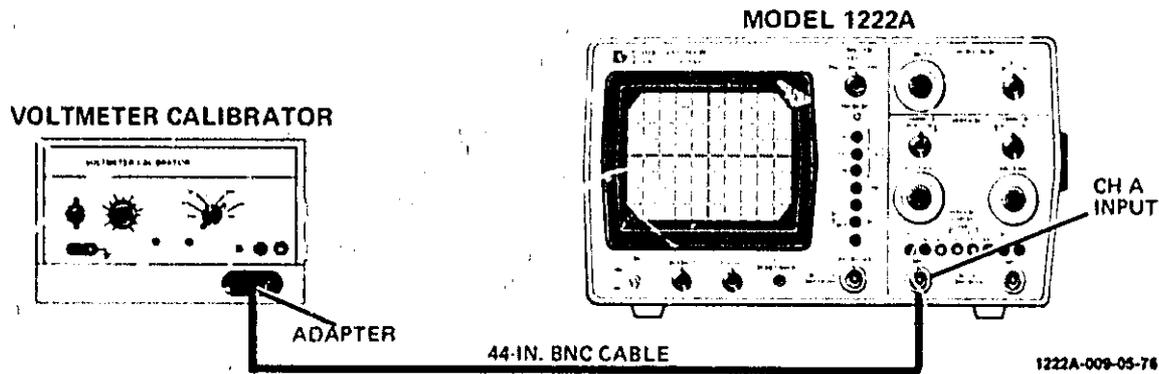

Figure 5-1. Deflection Factor Test Setup
- a. Connect equipment as shown in figure 5-1.